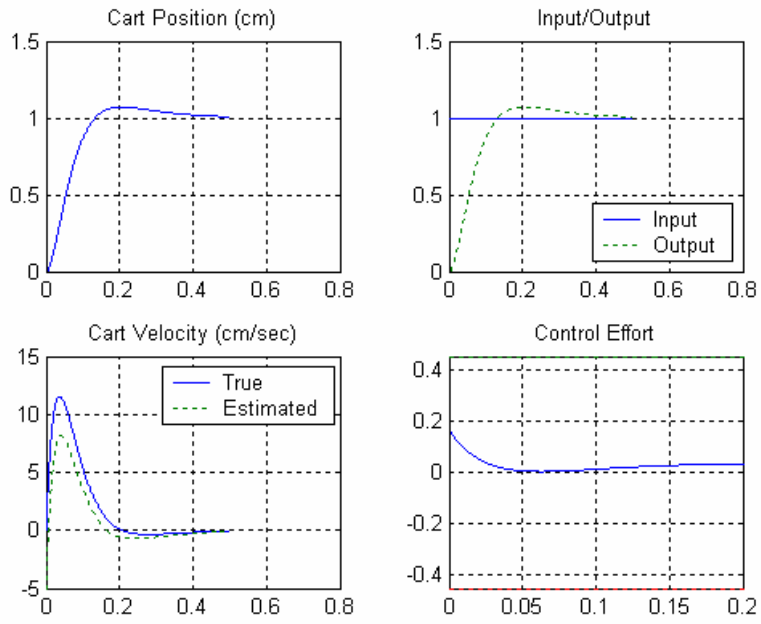

Figure 1. Results for 1b.
b) If the observer pole is at -10, you should get the response shown in Figure 1.